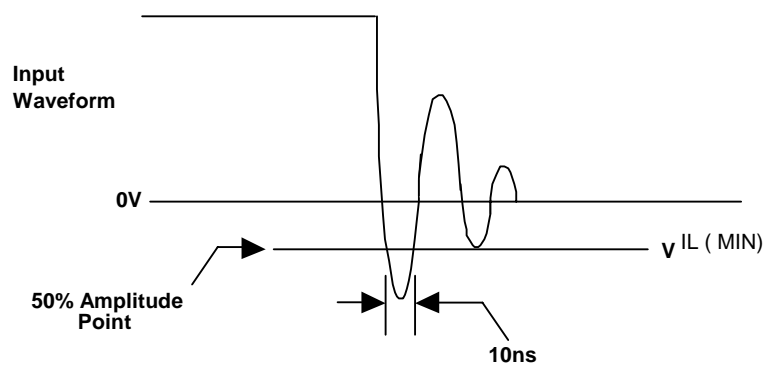

Figure 12: Input Signal Waveform
- 1.0 Volts for a duration of 10 ns measured at the 50% amplitude points for Input-only lines (see Figure 12 on page 26).